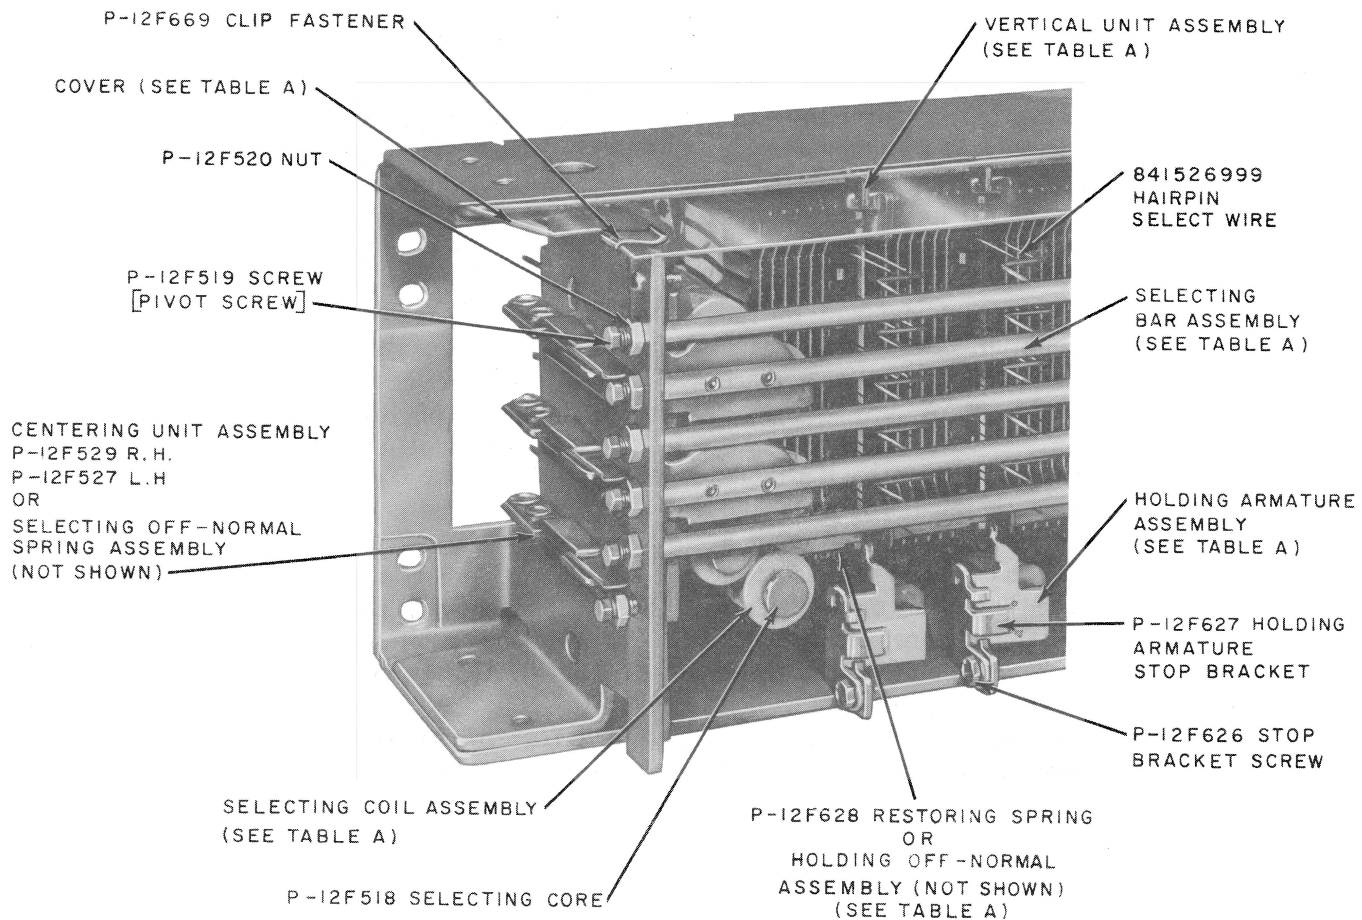

Fig. 1—Partial Front View of Switch With Bottom Selecting Bar Assembly Removed
3.05 Selecting Bar (Fig. 1)
3.06 Hairpin Select Wire (Fig. 1)
3.07 General: Identify and then remove all selecting bars necessary to obtain access to the defective core or coil assembly (Fig. 1) as covered in 3.05. From the rear of the switch, remove the wiring to the selecting coil (if the coil is to be replaced) and the selecting core locknut. Turn the core clockwise from the rear of the switch until the KS-21028 L1 tool touches the bearing plate. Return to the front of the switch, disengage the threaded portion of the core from the bearing plate, and pull the core from the coil assembly.
3.10 Selecting Off-Normal Spring Assembly or Centering Unit: (Fig. 1)—Remove the wired connections, where applicable. Loosen the selecting off-normal mounting screw using the R-2670 wrench or the centering unit using the 544A wrench. Rotate the unit upward to clear the screw, slide the unit outward to clear the selecting armature stud, and pull forward. Install the new unit in reverse order of removal. Connect the leads to their proper terminals where applicable.
3.11 Holding Off-Normal Spring Assembly: (Fig. 1)—From the rear of the switch, remove the wiring to the holding off-normal spring assembly. Loosen the spring assembly bracket mounting screw with the 388A wrench. Slide the assembly rearward out of the switch. Mount the new spring assembly, taking care to position the tip of the spring on the stud of the armature and the emboss lies within the slot in the base. Securely tighten the mounting screw. Connect the wiring to the proper terminals of the spring assembly.
3.12 *Holding Armature Restoring Spring* (Fig. 1)
VERTICAL UNIT ASSEMBLY (Fig. 1 and 3)
HOLDING ARMATURE ASSEMBLY (Fig. 1)